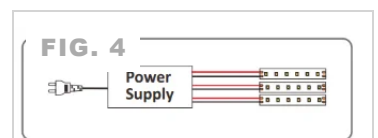

Fig. 4 · Array layout
- 04 Array.** Each strip individually powered. Total wattage must not exceed driver capacity. (FIG. 4)